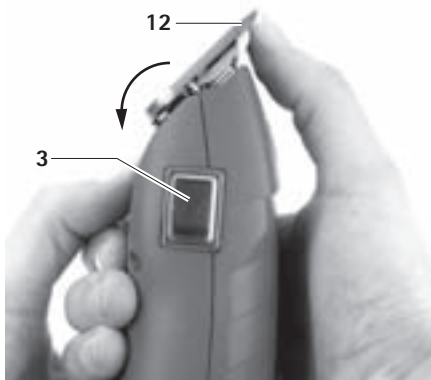

Fig. 5
- Press forward shearing head 12, see Fig. 5.